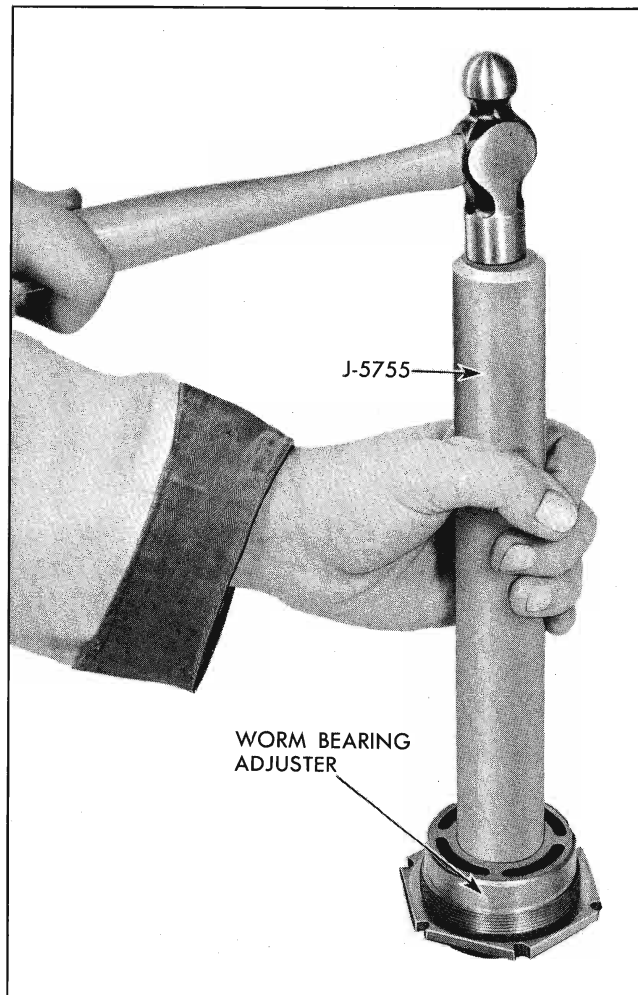

Fig. 9-33 Replacing Bearing Cup
2. Install bearing cup in worm bearing adjuster (Fig. 9-33) using tool J-5755.